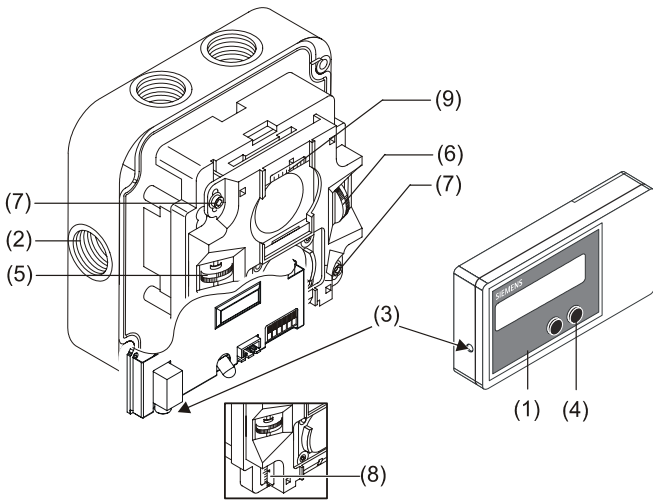

Fig. 5
1. Fix the adjustment device (Fig. 5, [1]) at the base. To do this, turn the cable gland of the suspension into a free cable grommet (Fig. 5, [2]) of the base and link it to the adjustment device suspension chain.